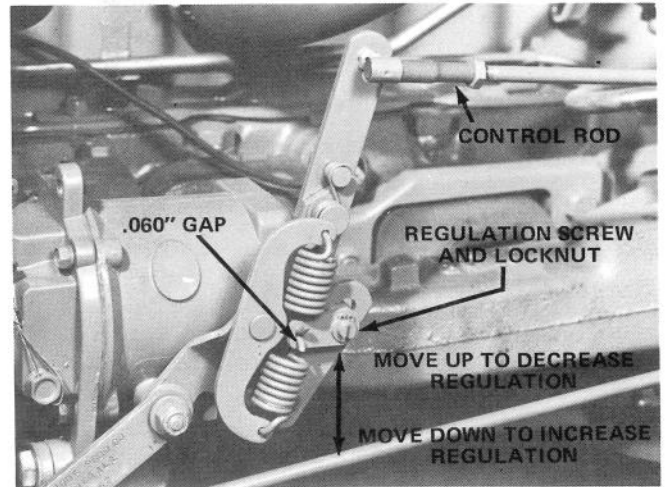

Figure 70
5. To stabilize the governor, eliminate hunting, or to increase the spread of RPM between no-load and full load, loosen the locknut on the regulation screw shown in Figure 70, turn the screw counter-clockwise 1/8 turn, and tighten the locknut. Re-